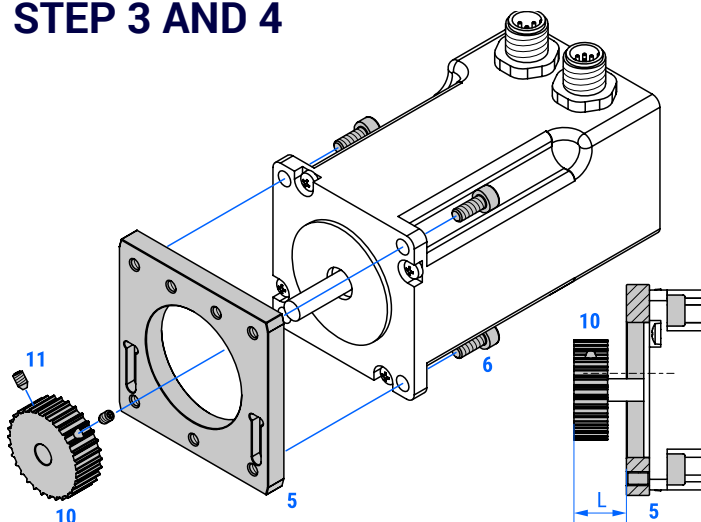

Figure 4: Step 3 and 4.
STEP 4: Place the motor belt pulley **10** on the motor shaft. Ensure that the motor belt pulley **10** and the motor shaft are correctly aligned (mounting distance L between the tensioning plate **5** and the outside surface of the motor belt pulley **10** must be ensured), see Figure 4 and Table 2. Tighten the motor belt pulley set screws **11** evenly.